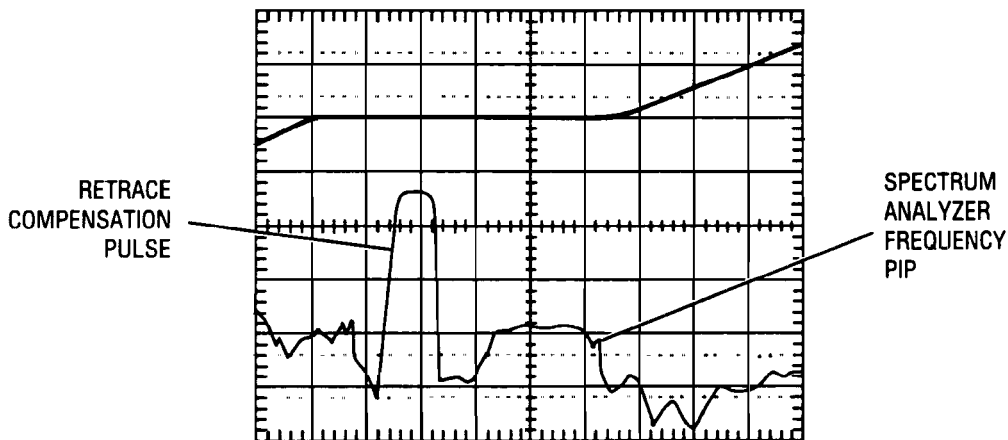

Figure 5-12. YO Retrace Compensation Pulse
6. Use the delayed sweep vernier to set the delayed part of the trace on the bandswitch point between band 1 and band 2 as shown in Figure 5-12.
8. Start with A8R55 (RTC COMP) fully clockwise and adjust it for the widest and flattest pip while moving the spectrum analyzer center frequency to track the bandswitch frequency. A well adjusted retrace compensation pulse is shown in Figure 5-12.